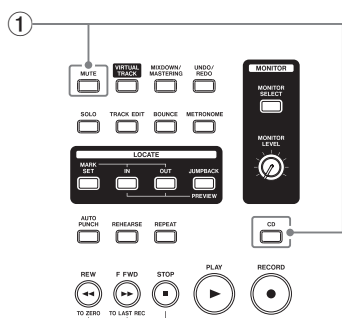

Fig 1
- Insert the update SD card into the SD card slot on the back of the unit (Fig. 1-③).
- While pressing the CD and **UNDO/REDO** buttons (Fig. 1-①), press and hold the **STANDBY/ON** button on the back of the unit (Fig. 1-②) to start the unit.